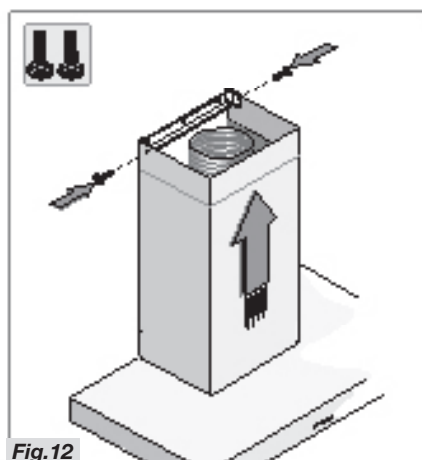

Fig.12
- Insert the top decorative chimney in the bottom decorative chimney and place them on the body of the hood. Slide the top decorative chimney as far as the bracket and fasten it with the two screws (Fig.12).